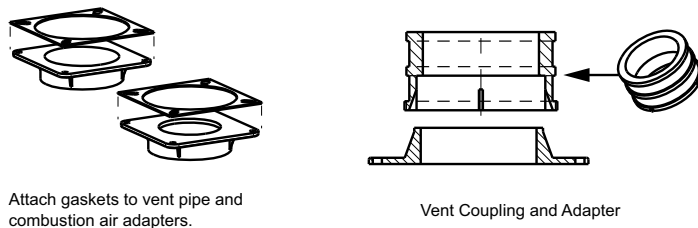

Fig. 57 – Vent Coupling and Adapter with Gaskets A13074
1. Apply the gaskets to the vent pipe and combustion air pipe adapters. If supplied, remove and discard round center “slug” from interior of gasket. See Fig. 57.